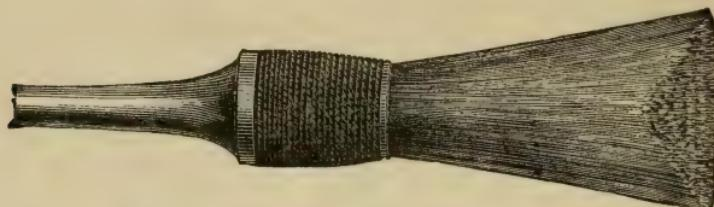

Fig. 10—Coach Painters' Spoke Brushes.
*i. Coach painters' spoke brushes* run in sizes from No. 1 to 3 and are used chiefly by the carriage trade, but they are also very useful for a number of purposes in general painting where a long but slim brush is to be used. Decorators in water colors will also find them a handy tool for coves, etc. See Fig. 10.